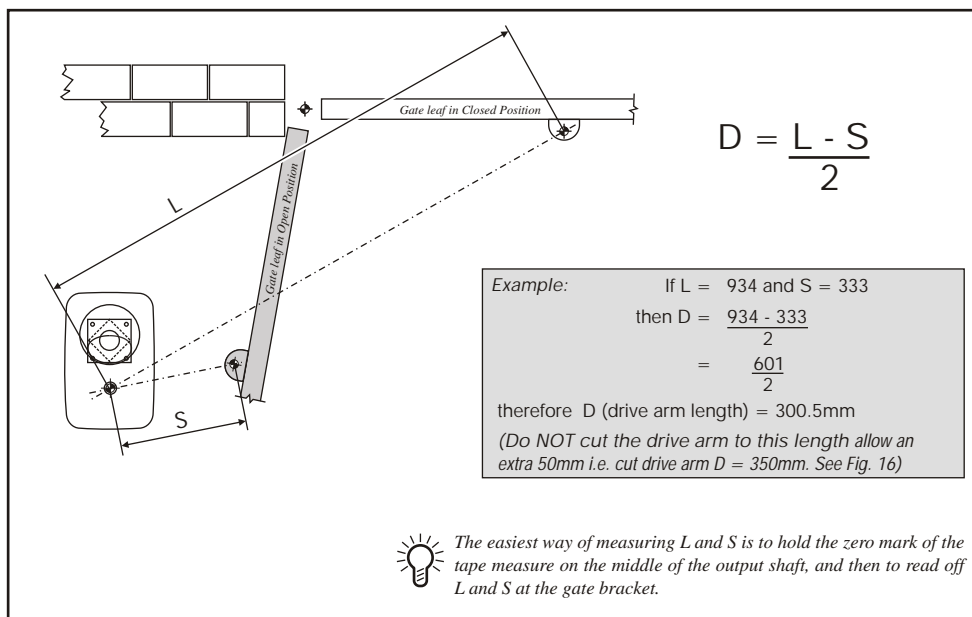
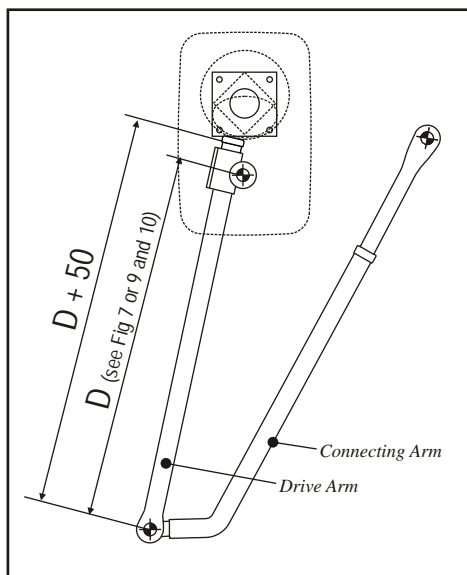

Figure 15 Determining Drive Arm Length for Standard Pedestal & Outward Opening Gates
Figure 16 Adjust Drive Arm length
Measure dimensions L (long) and S (short) as in Fig. 15 and calculate the drive arm length D as shown in Fig. 15. **DO NOT CUT THE DRIVE ARM TO THIS LENGTH.** Cut the drive arm at least 50mm longer than D. The cut length is therefore = $D + 50\text{mm}$. (See Fig. 16)
From the tables on Fig. 8, determine the drive arm length D, and select the *boldface* value if the motor is mounted in the recommended. **DO NOT CUT THE DRIVE ARM TO THIS LENGTH.** Cut the drive arm at least 50mm longer than D. The cut length is therefore = $D + 50\text{mm}$ (see Fig. 16)
Determine the drive arm length (D) from Figures 10 and 11. **DO NOT CUT THE DRIVE ARM TO THIS LENGTH.** Cut the drive arm at least 50mm longer than D . The cut length therefore = $D + 50$ mm (see Fig. 16)